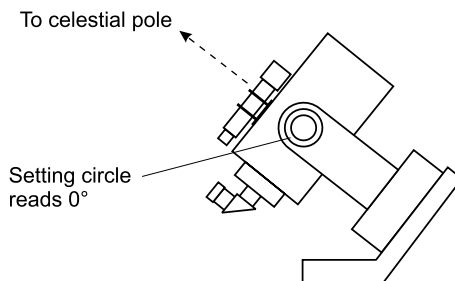
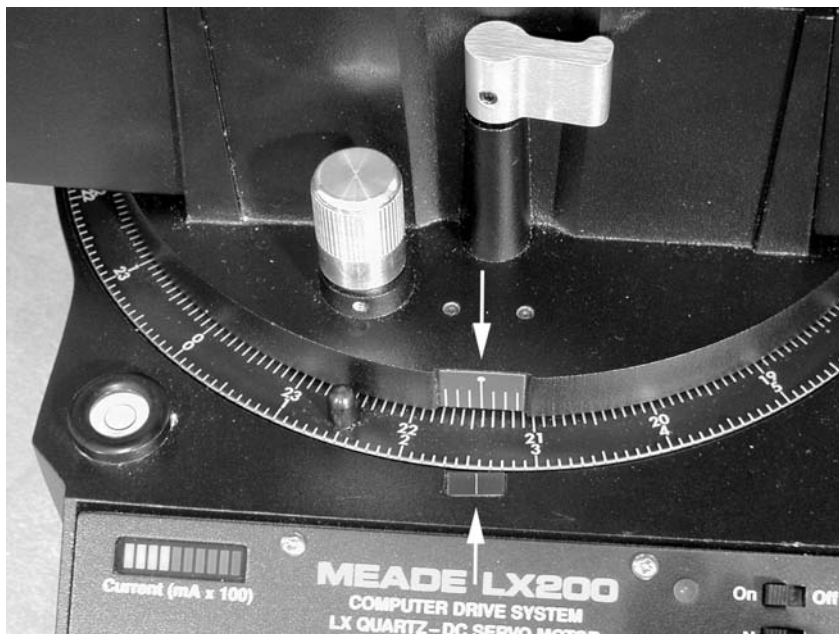
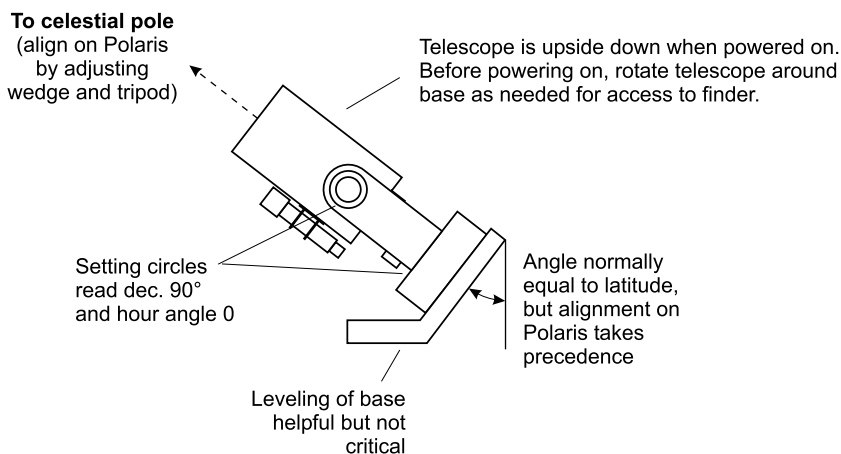

Figure 10.4. Starting position for LX200 on a mount that is already polar-aligned.
Figure 10.5. Hour angle zero means that the two outer marks are lined up. The position of the setting circle between them is irrelevant.
Figure 10.6. Starting position on a mount that is to be polar-aligned with help from the LX200's computer.
- (1) Unlock the declination brake, move the tube so that the setting circle reads 0° , and re-lock the brake.
- (2) Unlock the right ascension brake, move the tube so that the telescope is pointing due south (on the meridian, zero hour angle, Figure 10.5), and re-lock the brake. The starting position is shown in Figure 10.4.
- (3) Turn power on.
unlock the right ascension and declination brakes. Set the telescope to declination 90° (pointing directly away from its base) and hour angle zero (aiming directly away from its connector panel; line up the mark on the revolving part of the base with the mark on the stationary part, as in Figure 10.5). Re-lock the brakes. The correct starting position is shown in Figure 10.6.